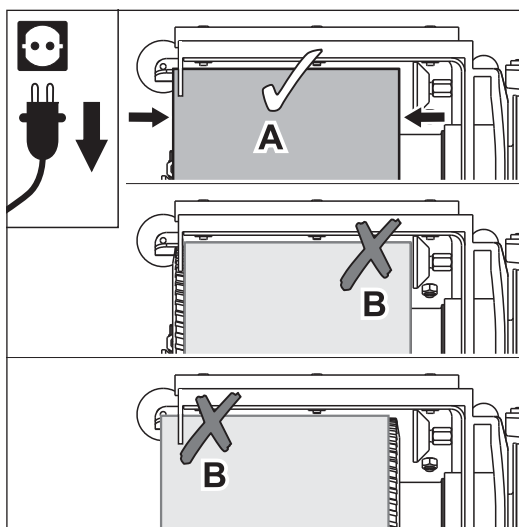

Fig. 17 Position the sanding belt so that it evenly covers the sanding drum (A). Avoid position B without fail (**RISK OF FIRE**)!
- 11 Position the sanding belt so that it evenly covers the sanding drum (fig. 17, A).
Position B of the sanding belt in fig. 17 provoke sparking during sanding! Avoid this without fail!